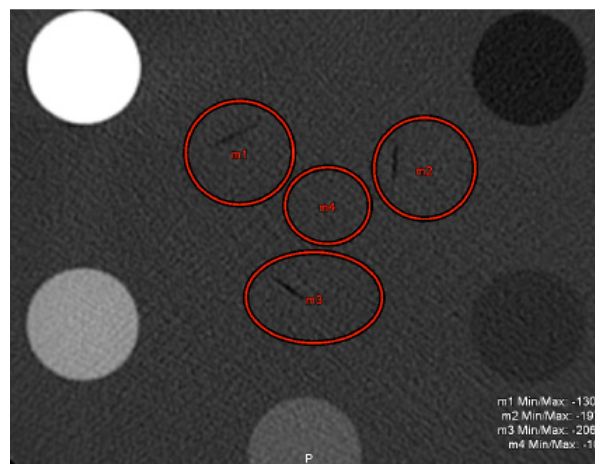

FIGURE 4.
- Place ROI over all the ramp projections and one over the background (Figure 4). Record the minimum HU value (since the slice thickness measuring ramps are air channels, the minimum value is the CT Peak Number “P”) for each ramp projection ROI. Record the mean HU value of the background ROI (value “B”) (Figure 4).